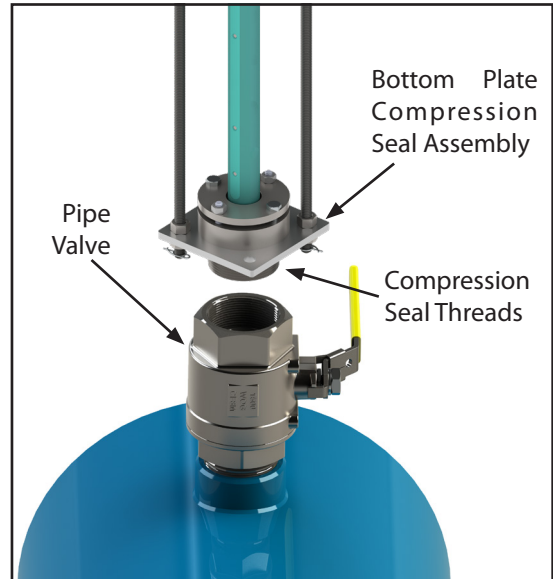

Figure 17. Connecting sensor to the pipe valve
2. Place the compression seal threads over the pipe valve. (See Figure 17) Turn the entire sensor assembly clockwise to secure the assembly to the valve. A large pipe wrench can be used to grip the bottom plate of the compression seal to tighten the assembly into the pipe valve.